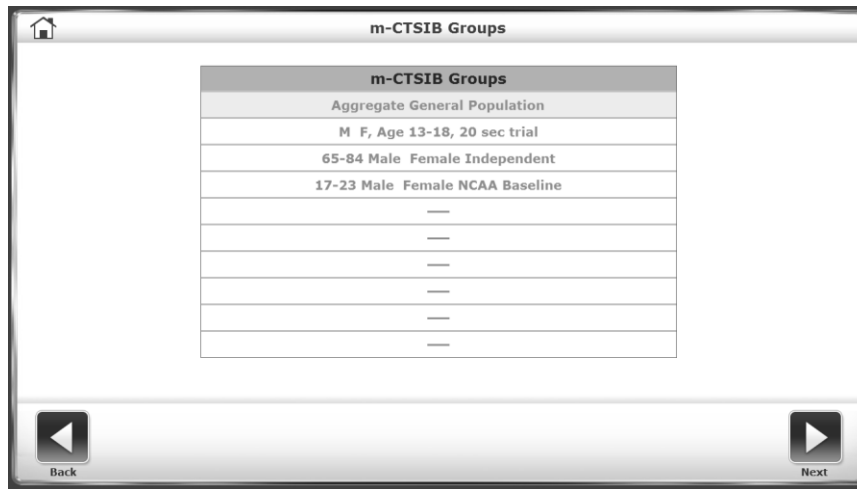

Figure 7.9. *Selecting a Data Set for a Progress Report.*
6. For Normative Data, select a specific data set, and then touch <Next> (see Figure 7.9).